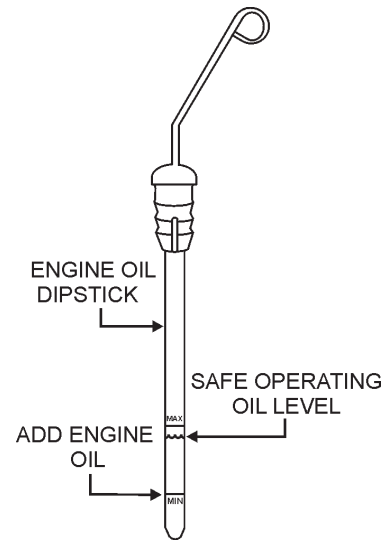

Figure 8. Engine Oil Dipstick Level
3. Check the oil level shown on the dipstick (Figure 8).